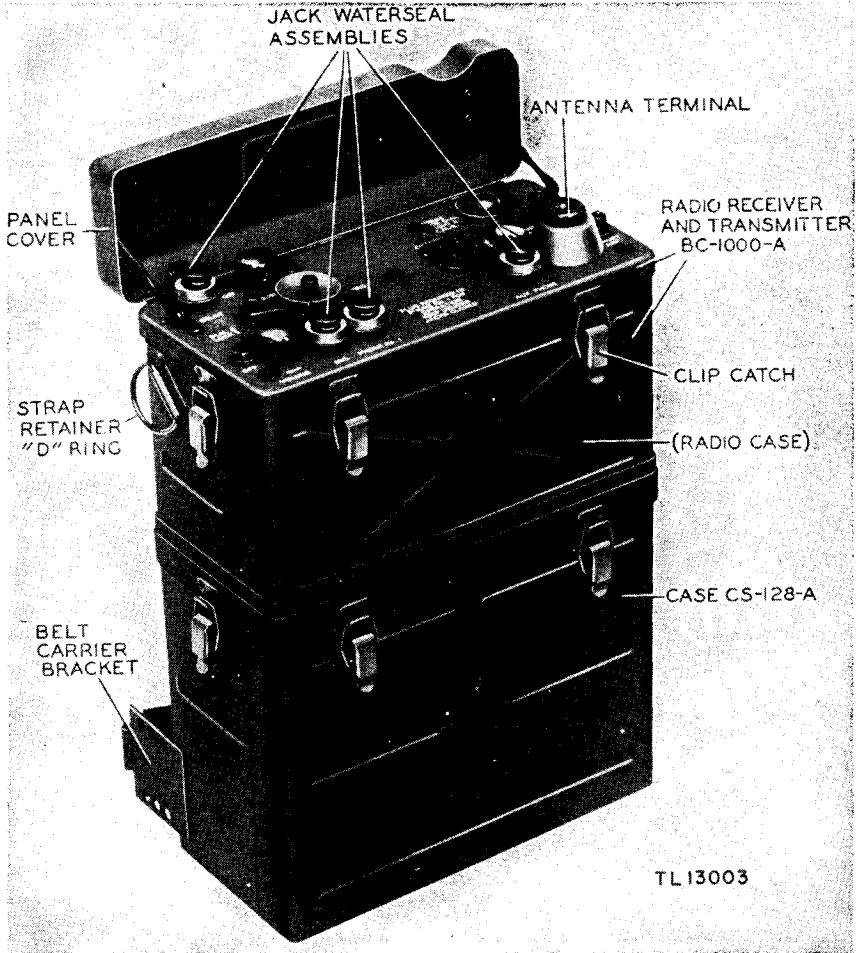

Figure 6. Radio Receiver and Transmitter BC-1000-A, with Case CS-128-A attached.
trols, jacks, and terminals are mounted on the front panel; a hinged metal panel cover fits over some of the controls and jacks. (See fig. 6.)
a. HOUSING. The waterproof housing is divided into two sections. The top section of the housing (part of Radio Receiver and Transmitter BC-1000-A) houses the radio chassis. A socket in the bottom of the chassis case provides for connection to Battery BA-70 or BA-80. The bottom section of the housing or Case CS-128-A (fig. 6) covers and waterproofs but does not carry the weight of Battery BA-70 or BA-80.
c. **WATERSEALS.** Synthetic rubber gaskets act as waterseals to provide protection against moisture. Special waterseal assemblies prevent moisture from entering through the jacks on the front panel. (See fig. 6.)